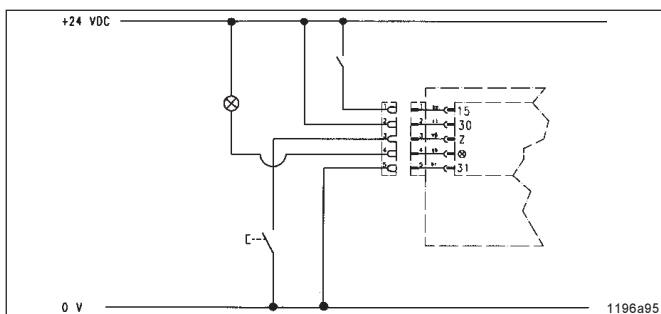

Fig. 3 - Supply voltage and machine contact
- Jumper 30/15 has been removed. The printed circuit board must be connected to the power supply (+ and -) or to the battery voltage (terminals 30 and 31). Refer to Fig. 3.
- The connection 15 is used for the additional activation as a function of auxiliary units or drives, etc. Refer to Fig. 3.